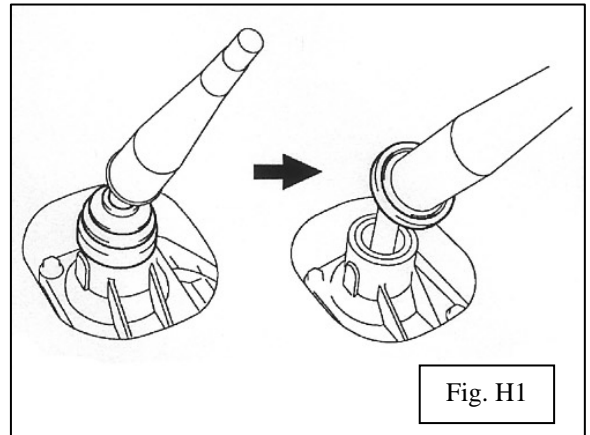

Fig. H1
1. Separate the shift lever cap boot from the shift lever retainer. (Fig H1)